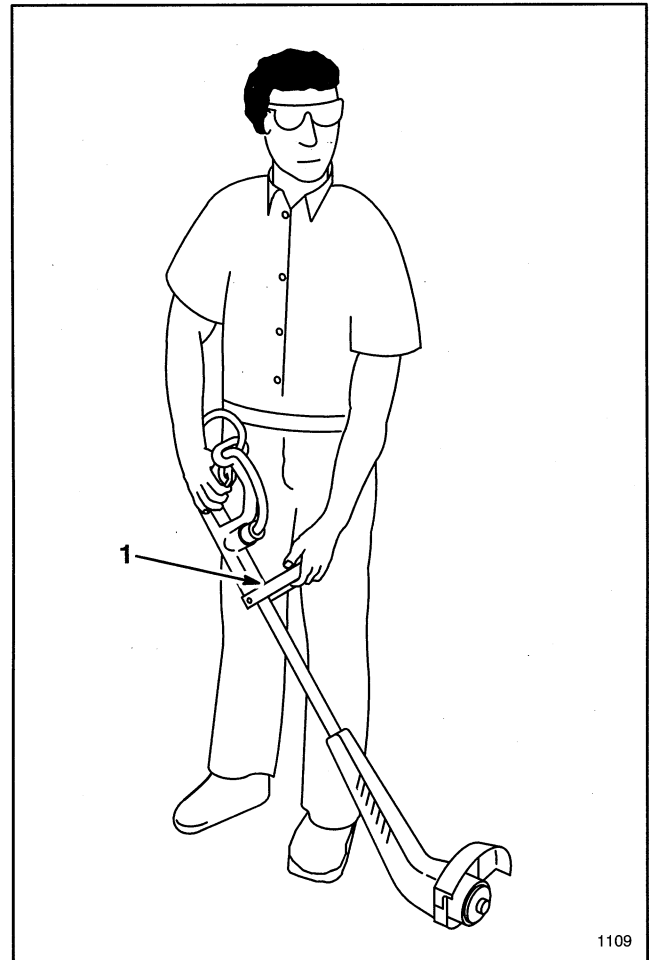

Figure 17
10. Trimmer may be used as a decorative edger by rotating support handle 180° (Fig. 17).